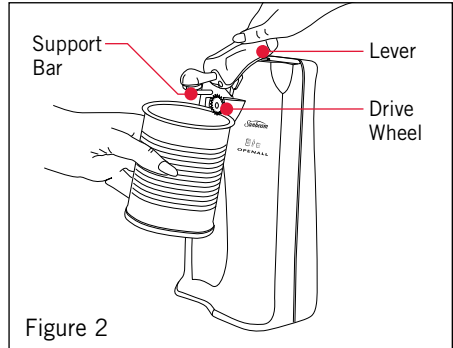

Figure 2
3. Hold the Lever in the upright position. Position the can under the Support Bar so that the rim of the can rests on top of the Drive Wheel, tilting the can at a slight angle towards the main body of the unit. (See figure 2.)